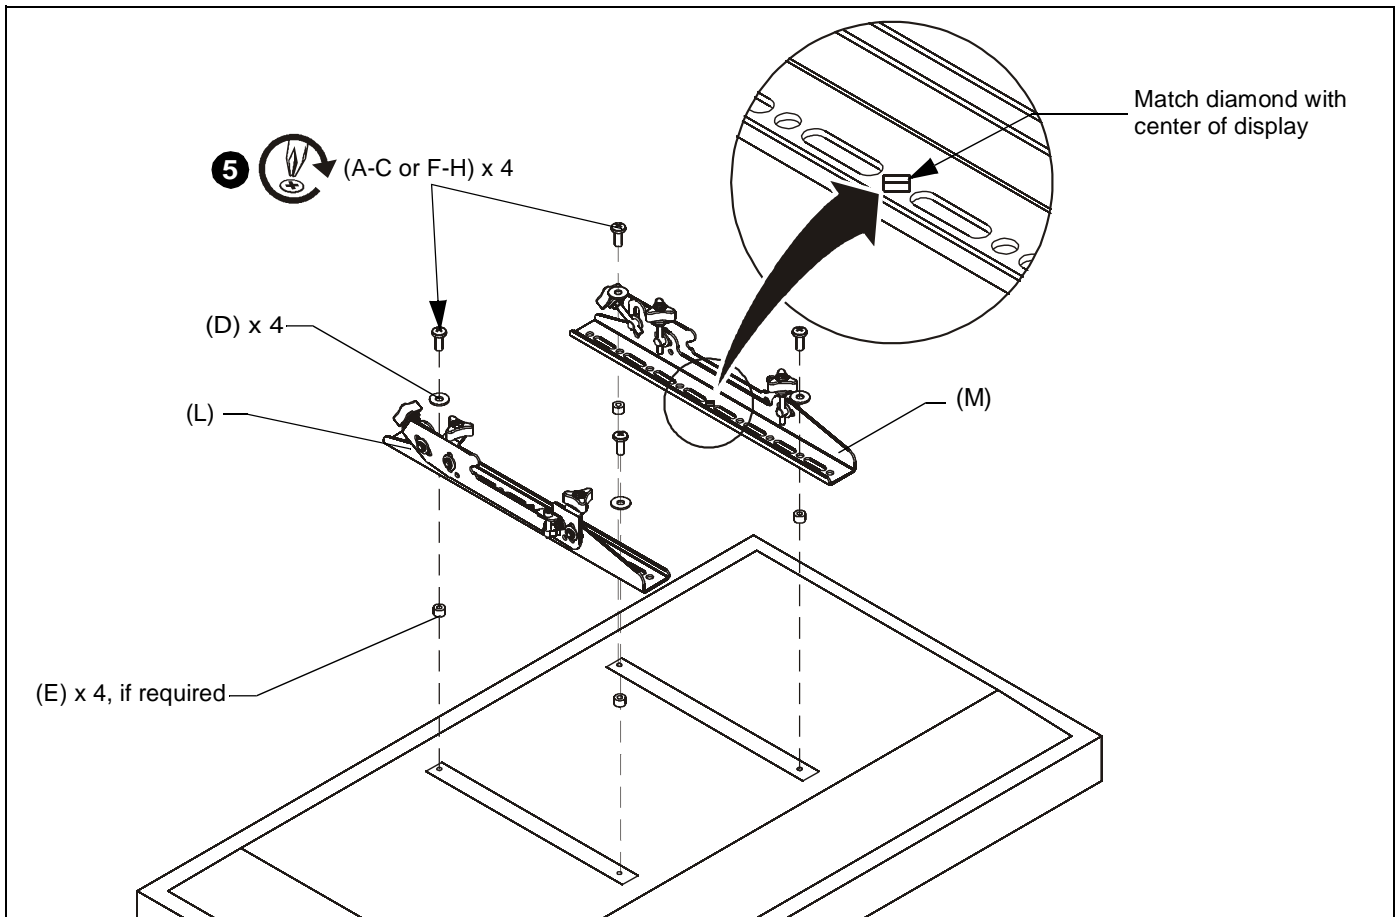

Figure 3
2. Select screw *diameter* by examining hardware (A-C and F-H) (6mm or 8mm) and comparing with mounting holes on display. (See Figure 3)
- Spacers (E) **ARE** required if mounting holes are recessed, or if protrusions prevent interface brackets (L and M) from laying flat.
4. Select screw *length*: (See Figure 3)
- By hand, insert **SHORTEST** length screw of selected diameter (A or F) through 1/4" washer (D), bracket (L or M), selected spacer (E, if required), into display mounting hole. Do **NOT** thread screw into hole at this time.
5. Make sure diamond on interface brackets is even with center of display. (See Figure 3)
6. Use selected screws (A-C or F-H), washers (D) and spacers (E, if necessary), to connect interface brackets (L and M) to back of display. (See Figure 3)